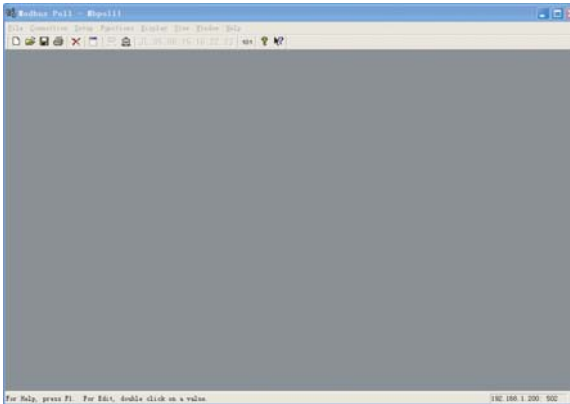

Fig.3.7
1)Choose "Connection"->"Connection" in figure 3.7,and then chose TCP/IP in the pop-up window:
Choose button 16 in Fig.3.7,as shown below: